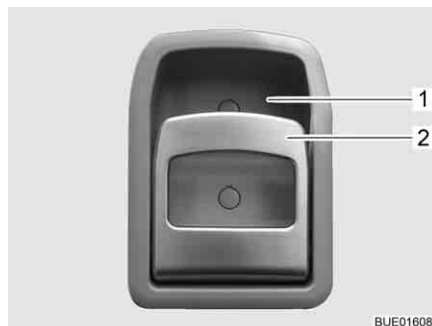

Fig. 49 Door lock of conversion door, inside
- Pull on the handle (Fig. 49,2). The door lock is unlatched or opened.
- Press the upper part of the handle (Fig. 49,2) in the direction of the recessed handle (Fig. 49,1). The door lock is locked.